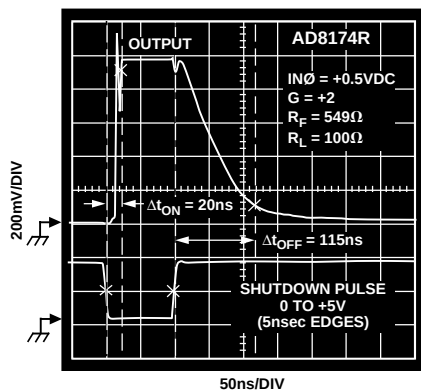

Figure 6. Shutdown Switching Characteristics
3AD8174 only.  $\overline{\text{ENABLE}}$  pin is grounded. Shutdown (SD) pin is driven with 0 V to +5 V pulse (5 ns rise and fall times). State of A0 and A1 logic inputs determines which channel is activated (i.e., if A0 = Logic 1 and A1 = Logic 0, then IN1 input is selected). Set IN0 (or IN2) = +0.5 V dc, IN1 (or IN3) = -0.5 V dc, and measure transition time from 50% of SD pulse (+2.5 V) to 90% of the total output voltage change. In Figure 6,  $\Delta t_{OFF}$  is the shutdown assert time,  $\Delta t_{ON}$  is the shutdown release time.